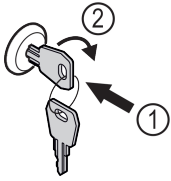

Fig. 151
- ▶ Insert key Fig. 151 (1).
- ▶ Turn key clockwise by 90° Fig. 151 (2).